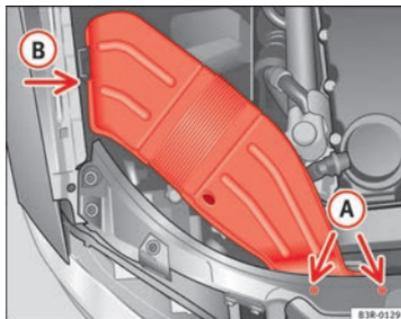

Fig. 203 Air duct on right side of vehicle
- Unscrew bolts **A** → Fig. 203.